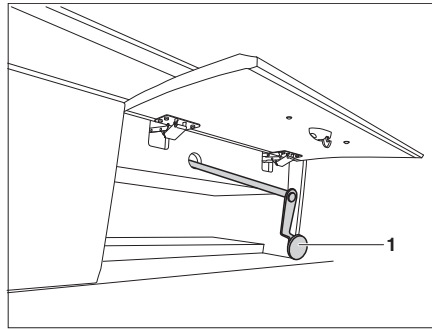

Fig. 158 Emergency operation for the electrical pull-down bed
- ▶ In the case of a power failure the electrical pull-down bed can also be moved with an emergency crank (Fig. 158). This is located behind a storage compartment flap.